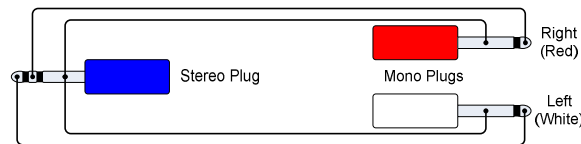

Figure 14 ~ Stereo to Mono adapter cable diagram.
Because the tester is designed to be used as an aid in soundcard setup, I tested it with a soundcard, in this case the internal soundcard in a Windows XP PC. This PC uses the Analog Devices AD1982 chipset and has a stereo Line In jack and a separate Microphone jack. I tested with two different audio cables, one with 3.5 mm stereo plugs and the other with 3.5 mm mono plugs. The soundcard was setup to use the Line In jack (figure 10). I then used the GoldWave audio editor program to record the test activity (figure 11). All switch and control functions through a positive twist in fate worked as expected the first time. The ultimate test was to use the tester on a Windows XP PC with Radio-SkyPipe and this was successful (figure 12). I also used the tester on a Windows 10 PC with a built-in soundcard, Radio-SkyPipe and Argo. I let Radio-SkyPipe run for 12 hours (figure 13) to check long-term output stability. Argo shows very good frequency stability (figure 14).
Figure 14 ~ Argo shows a stable output frequency (white horizontal line) of approximately 989.5 Hz over the 13 minute recording. These measurements were made while running on an external 12 Vdc regulated power adapter.
5. Use a shielded audio cable with stereo or mono plugs as required by the soundcard configuration to be setup. A stereo plug has tip, ring and sleeve contacts and mono has only tip and sleeve contacts. In some cases it may be necessary to adapt two individual mono circuits to stereo (figure 14). For the 3.5 mm stereo plug, the left channel is the tip and right channel is the ring lead.